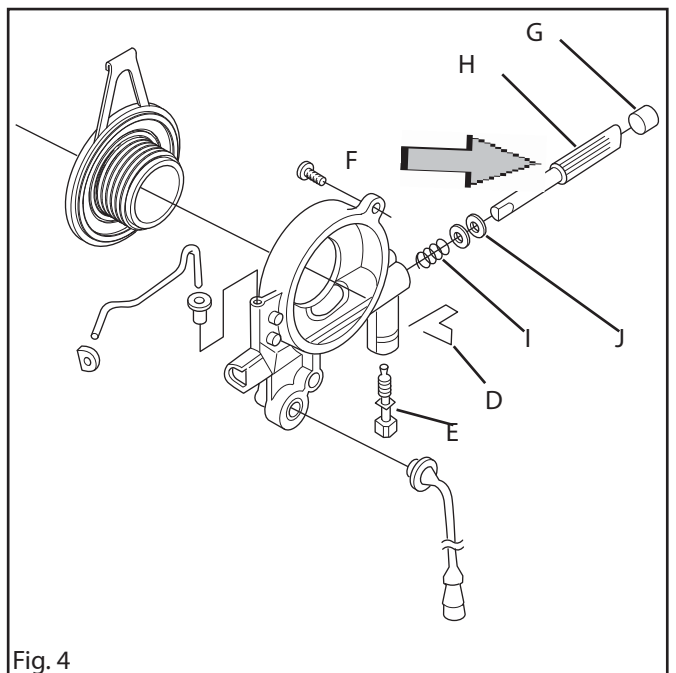

Fig. 4
5. Using a screwdriver, lever in the lip of the spring such that the spring sticks out a little on the other side. See fig. 4.
1. Locate the clutch shoes on the hub and fit the springs with the help of circlip pliers. See fig. 4.
7. Remove the clip (D) and unscrew the adjuster screw (E). See fig 4.
8. Using pliers, press on the plug piston at F so that the cover plug (G) and piston (H) can be removed. See fig 4.
9. Using pliers, remove the spring (I) and the two washers (J). See fig. 4.
2. Locate the spring (I), 2 washers (J) and pump piston (H) in the pump casing. Oil in all components with chain oil. See fig. 4.
3. Using a screwdriver, push in the pump piston and screw home the adjuster screw (E) fully. See fig. 4.
4. Locate the cover plug. (G). See fig. 4.
5. Fit the clip (D). See fig. 4.
In cold start mode (fig. 4), the choke butterfly (D) is completely closed. This increase the vacuum in the carburettor so that fuel is sucked more easily from the diffuser jets (E, F and G). The throttle butterfly (H) is partially open.